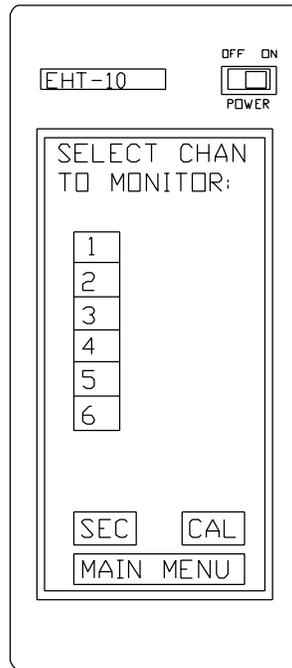

Figure 18 Select Channel To Monitor Screen
- * Press **Monitor** on the FST Main menu. The hand terminal displays a numeric entry screen for the number of seconds for the length of data to be displayed graphically. Enter an appropriate value from either .1 to .9 seconds (with no leading zero) or from 1 to 99 seconds. FST displays the Select Channel To Monitor screen, as shown in figure 18.